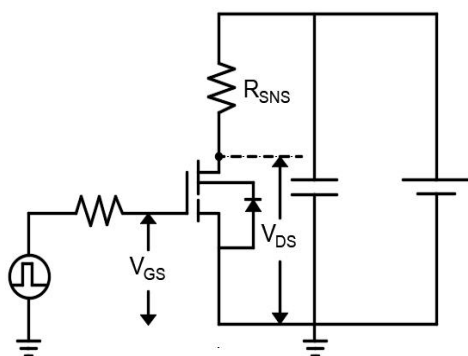

Figure 15. Dynamic $R_{DS(on)}$ Test Circuit
a. Dynamic on-resistance; see Fig. 15 and 16 for test circuit and conditions